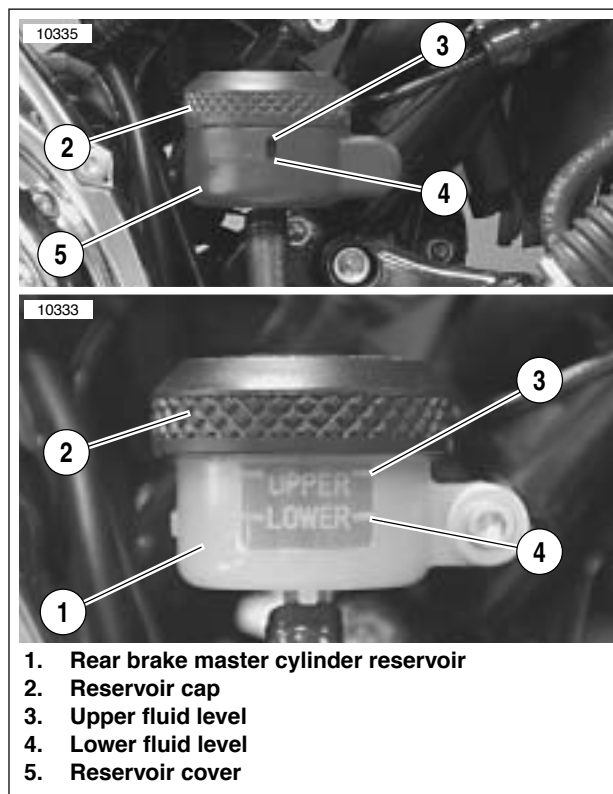

Figure 1-26. Rear Brake Master Cylinder Reservoir
- See Figure 1-26. Vehicle must be upright so that rear brake master cylinder reservoir (1) is in a level position when filling and checking fluid level.
- Reservoir cover (5) may be removed from rear brake master cylinder reservoir to more easily verify fluid level in reservoir.
1. Position motorcycle upright (not resting on jiffy stand). See Figure 1-26. Unscrew and remove reservoir cap (2).
2. If desired, remove reservoir cover (5) by grasping cover and gently pull straight out from reservoir (1).
3. Add HARLEY-DAVIDSON D.O.T. 4 BRAKE FLUID to master cylinder reservoir (1) until the fluid reaches the upper fluid level (3).